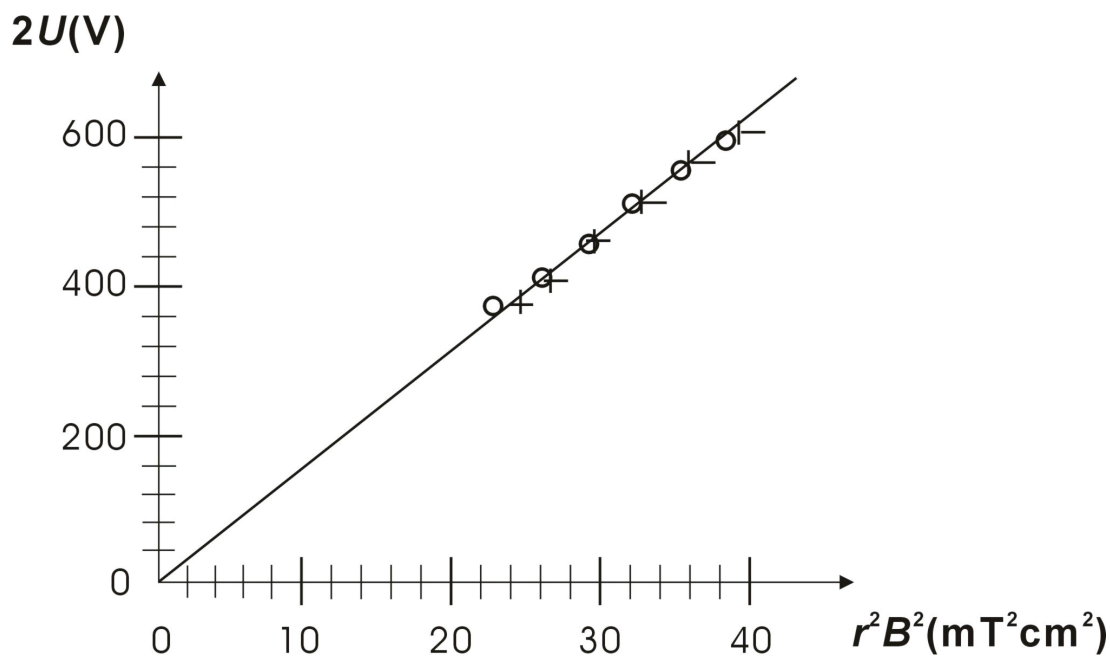

Fig. 2 Graph of  $r^2 B^2$  against  $2U$  for values as measured (○:  $r = 5$  cm, —:  $r = 4$  cm, |:  $r = 3$  cm)
- For further evaluation, plot the measured values in a graph of  $r^2 B^2$  against  $2U$  (see Fig. 2). The slope of the line through the origin corresponds to  $e/m$ .